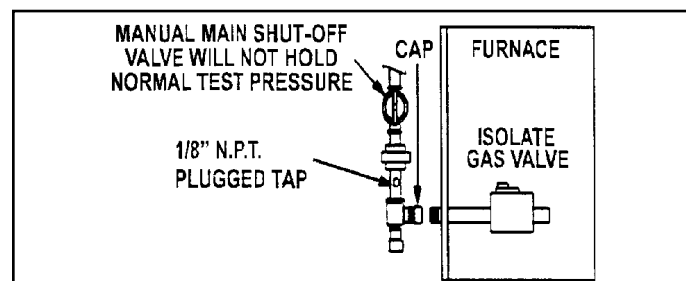

Figure 41.
5. A 1/8" N.P.T. plugged tap or pressure post is located on the gas valve to facilitate test gauge connection. See Figure 41.